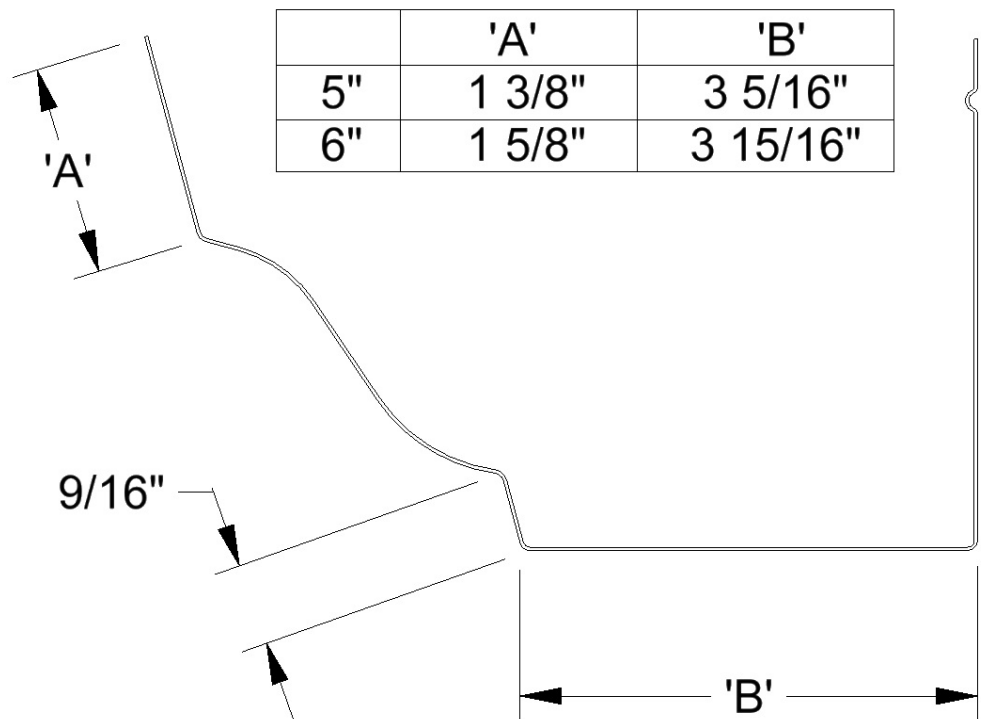

Figure 86: Gutter Profile Between Face and Box Roller Assemblies
- While viewing the gutter between the face rollers and the box, the dimension between point “A” & “D” is 1 3/8” for the 5” gutter and 1 5/8 for the 6” gutter as shown in Figure 86